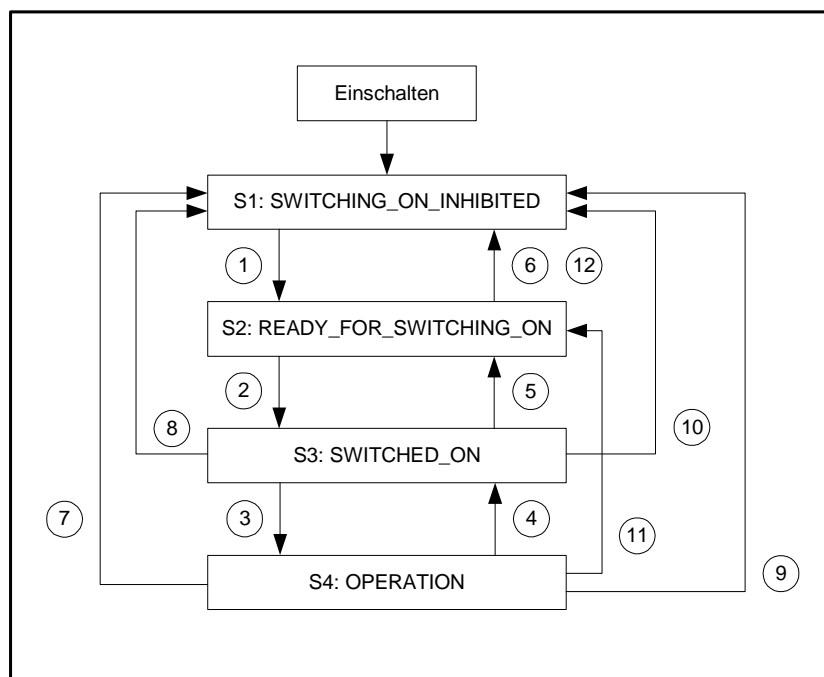

Figure 9.1: Simplified status diagram
The statuses have been adopted to a great extent from the PROFIdrive specification. PROFIdrive differentiates between the Ramp stop and Quick stop. The regulator release is uniformly switched off, so that the simplified status diagram according to Figure 9.1 is obtained.
- 3.) The transitions 1, 2 and 3 are to be carried out according to the status diagram Figure 9.1